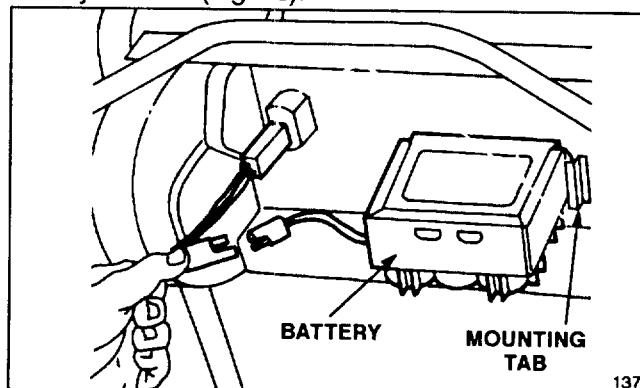

Figure 16
1. Stop engine and disconnect wiring harness from battery terminal (Fig. 16).
2. If desired, battery can be removed by sliding it out of mounting tabs (Fig. 16). However, removal is not required if mower can be positioned near an electrical outlet.